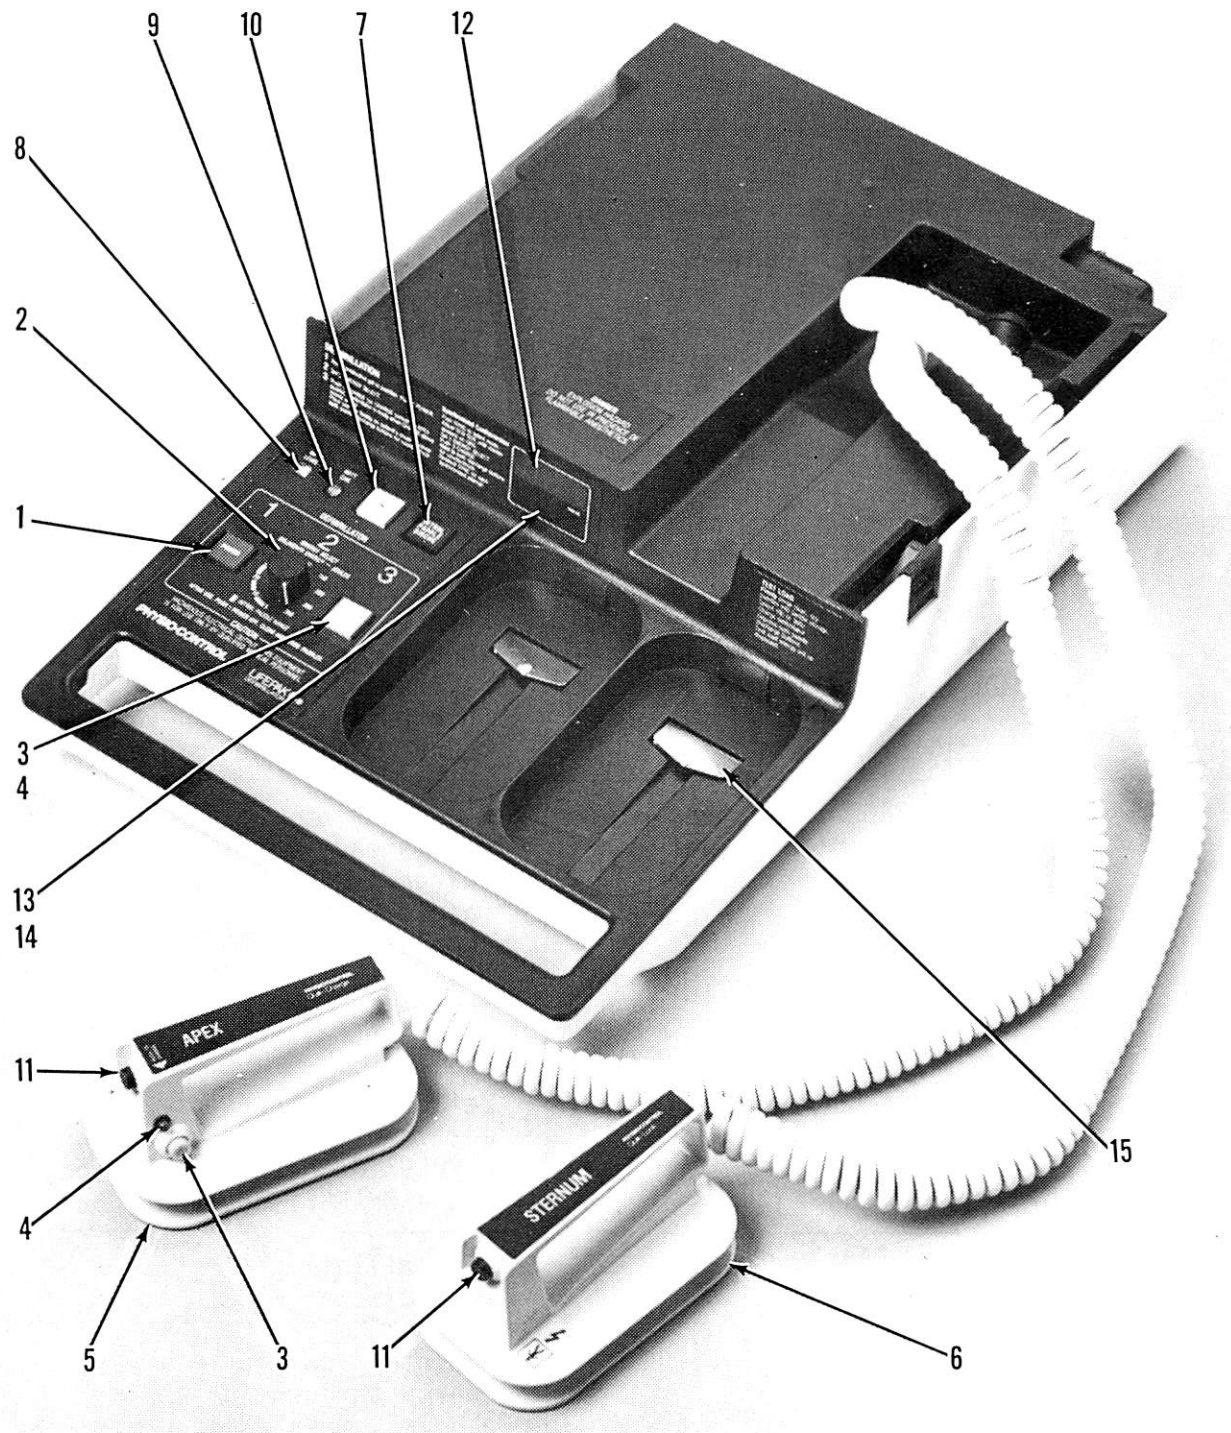

FIGURE 2-3. DC DEFIBRILLATOR UNIT CONTROLS AND INDICATORS
- C. The controls and indicators for the DC Defibrillator unit are shown in Figure 2-3. Each control and indicator in the figure corresponds to the listing in Table 2-3. The table lists the control or indicator and briefly describes its function.